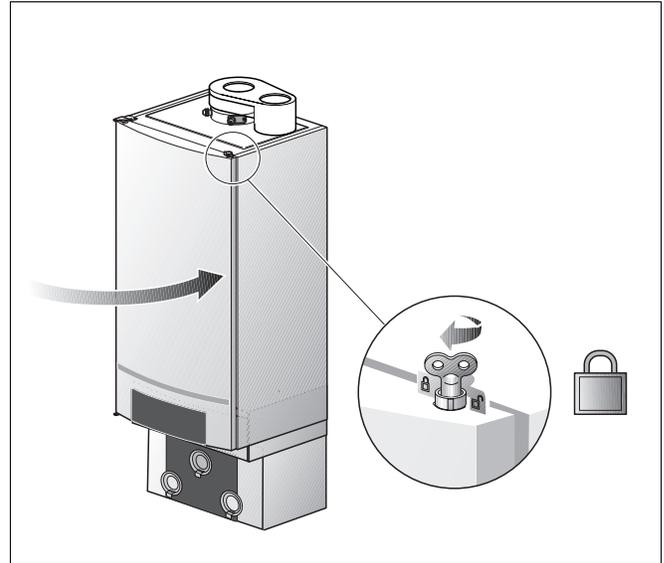

Fig. 71 Closing the boiler door
- Close the boiler door (fig. 71) and lock the fastener by turning the vent screw through  $\frac{1}{4}$  rotation in a clockwise direction.